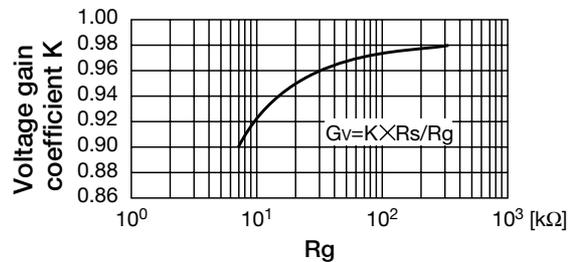

Fig.6. Voltage gain coefficient K vs R_g
2. R_g and R_s are external resistances. R_g is used to set the sensitivity, with smaller resistances yielding higher sensitivity. R_s is used to set the output scale; to obtain a larger output range, choose a higher resistance. R_s/R_g is the total gain. In actuality, there is a degree of error, and so a coefficient K is included (cf. Fig. 6).
R_s/R_g nearly coincides with the voltage gain, with a slight difference. This difference is represented by K, but as R_g changes K also changes. This relationship is indicated in Fig. 6.